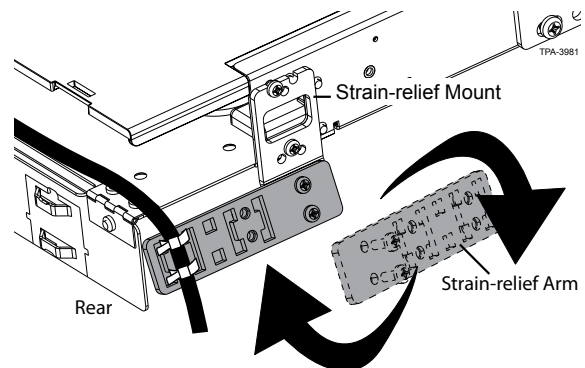

Figure 12
**Step 1:** Unscrew the screws holding the arm to the mount (Figure 12). Flip the bracket and reattach the strain-relief arm on the other side of the strain-relief mount.